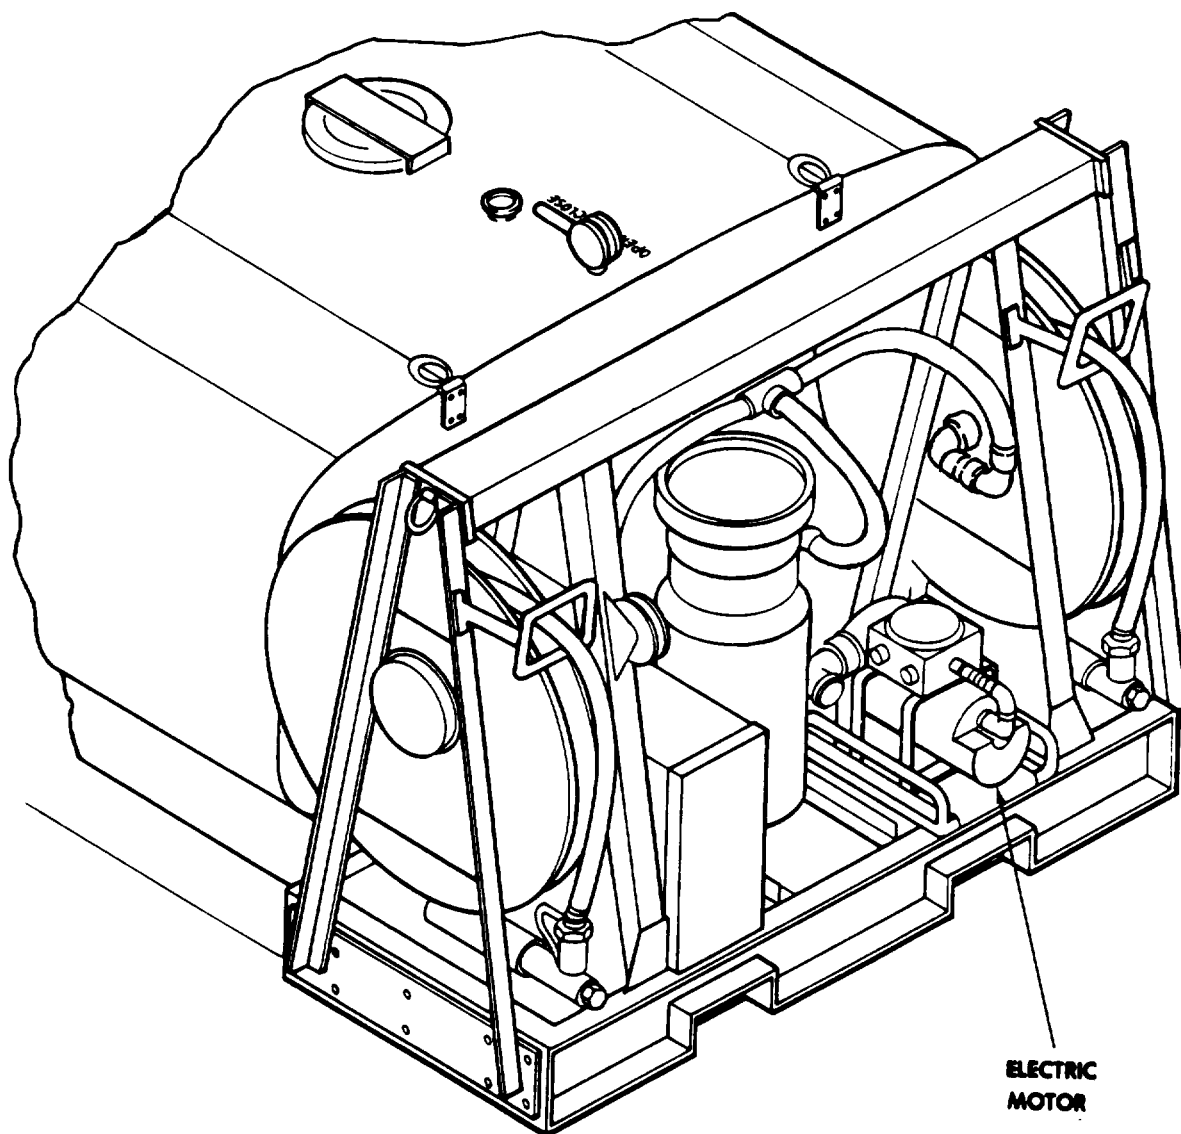

Figure 1-3. Tank and Pump Unit with Electric Motor.
- b. Motor. The electric motor is a 1.5 hp motor (figure 1-3).